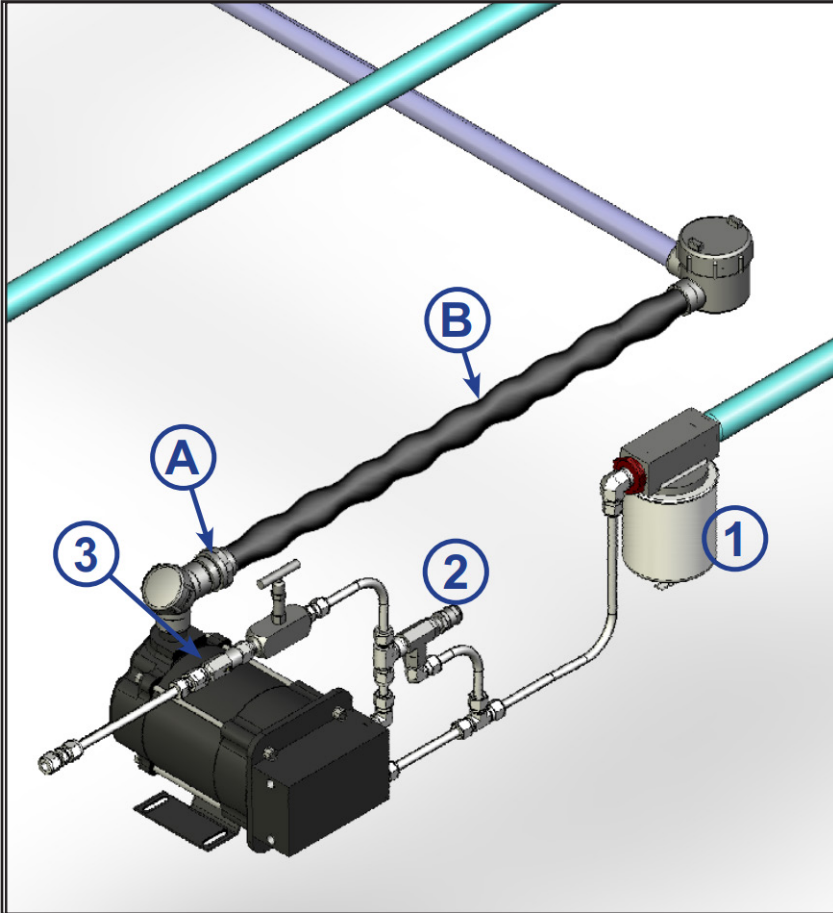

Figure 1: Typical Installation Diagram
- Figure 1: Typical Installation Diagram 6